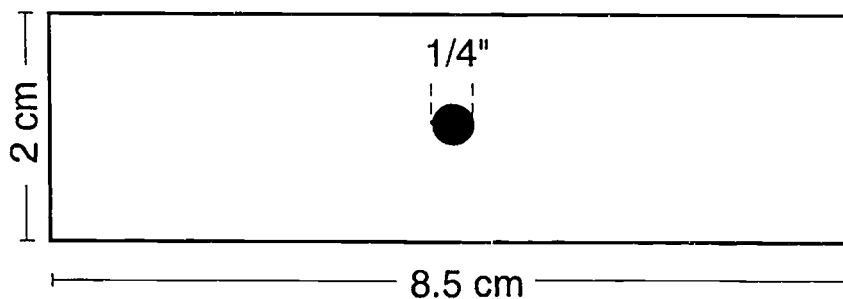

Figure 1. Drilling the wood strip.
1. Drill a 1/4" hole in the center of the wood strip (Figure 1). This strip will serve as the electrode (pencil) holder.